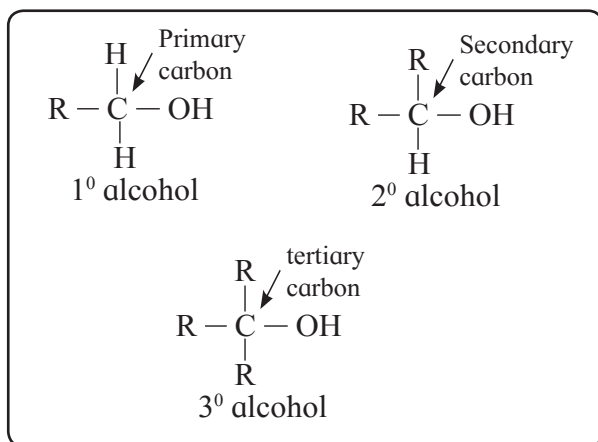

Fig. 11.1 : Primary, secondary and tertiary alcohols
a. Alcohols containing $\text{sp}^3\text{C} - \text{OH}$ bond : In these alcohols -OH group is attached to a sp^3 hybridised carbon atom of alkyl group. These alcohols are further classified as primary (1°), secondary (2°) and tertiary (3°) alcohols in which -OH group is attached to primary, secondary and tertiary carbon atom respectively. (see Fig. 11.1), refer to Std. XI Chemistry Textbook Chapter 14, sec. 14.3.2)